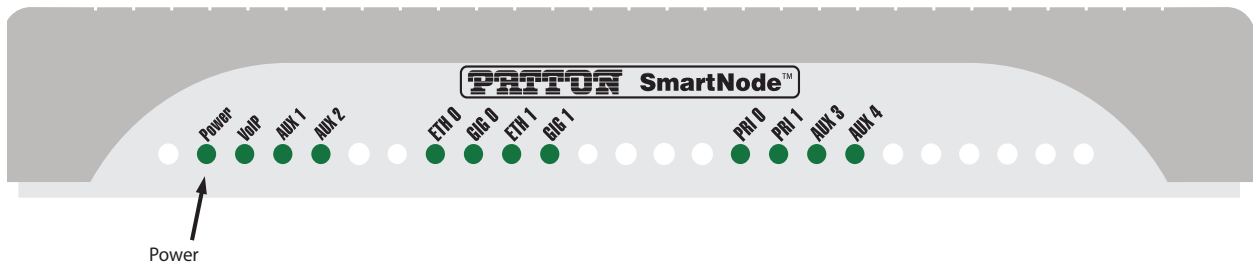

Figure 6. Power LED
4. Verify that the green *Power* LED is lit (see figure 6). Blinks fast during bootloader phase and blinks slow during boot process of Trinity Software. Becomes solid when the system is up and running.